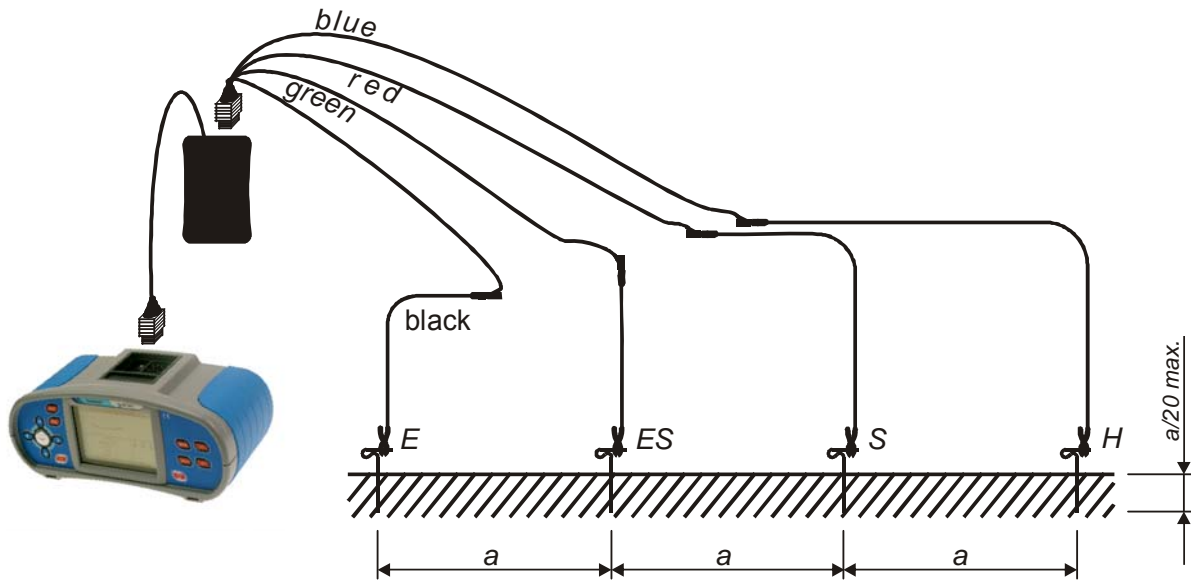

Figure 5.52: Specific earth resistance measurement with ρ -adapter
- ❑ Connect test leads of **ρ -adapter** to tested object (see figure 5.52)